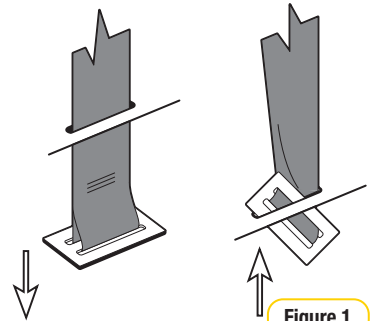

Figure 1
- Step 1:** From the underside of the restraint pull each crotch 3-bar slide then turn 3-bar slide and push through each slot to remove the Harness Buckle from the restraint (refer Figure 1).